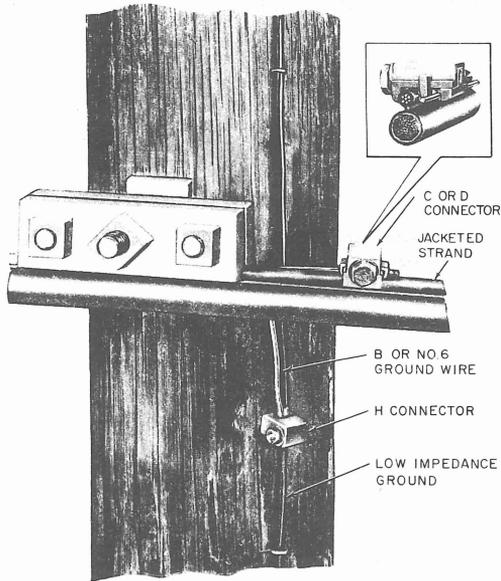

Fig. 26—Grounding Jacketed Strand
4.16 After self-supporting cable has been tensioned, make permanent ground attachments to the vertical ground of a power system multigrounded neutral as shown in Fig. 26. Points of attachment should be specified on the work print. Bridge any break in strand continuity with a permanent bond.